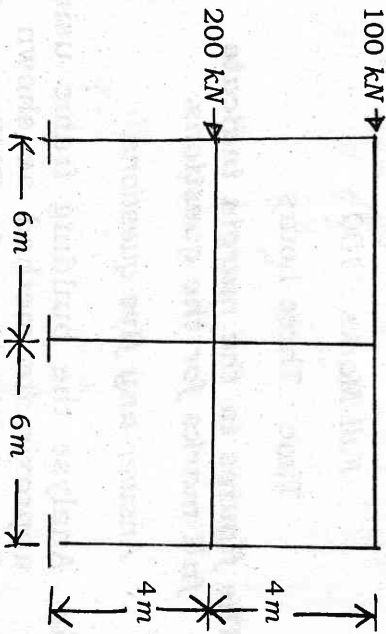

Figure 2
- (b) Analyse the building frame subjected to horizontal loading as shown in Figure 2. Find out beam axial forces, beam shear, column moments, beam moments, column moments. Draw bending moment diagram. 10